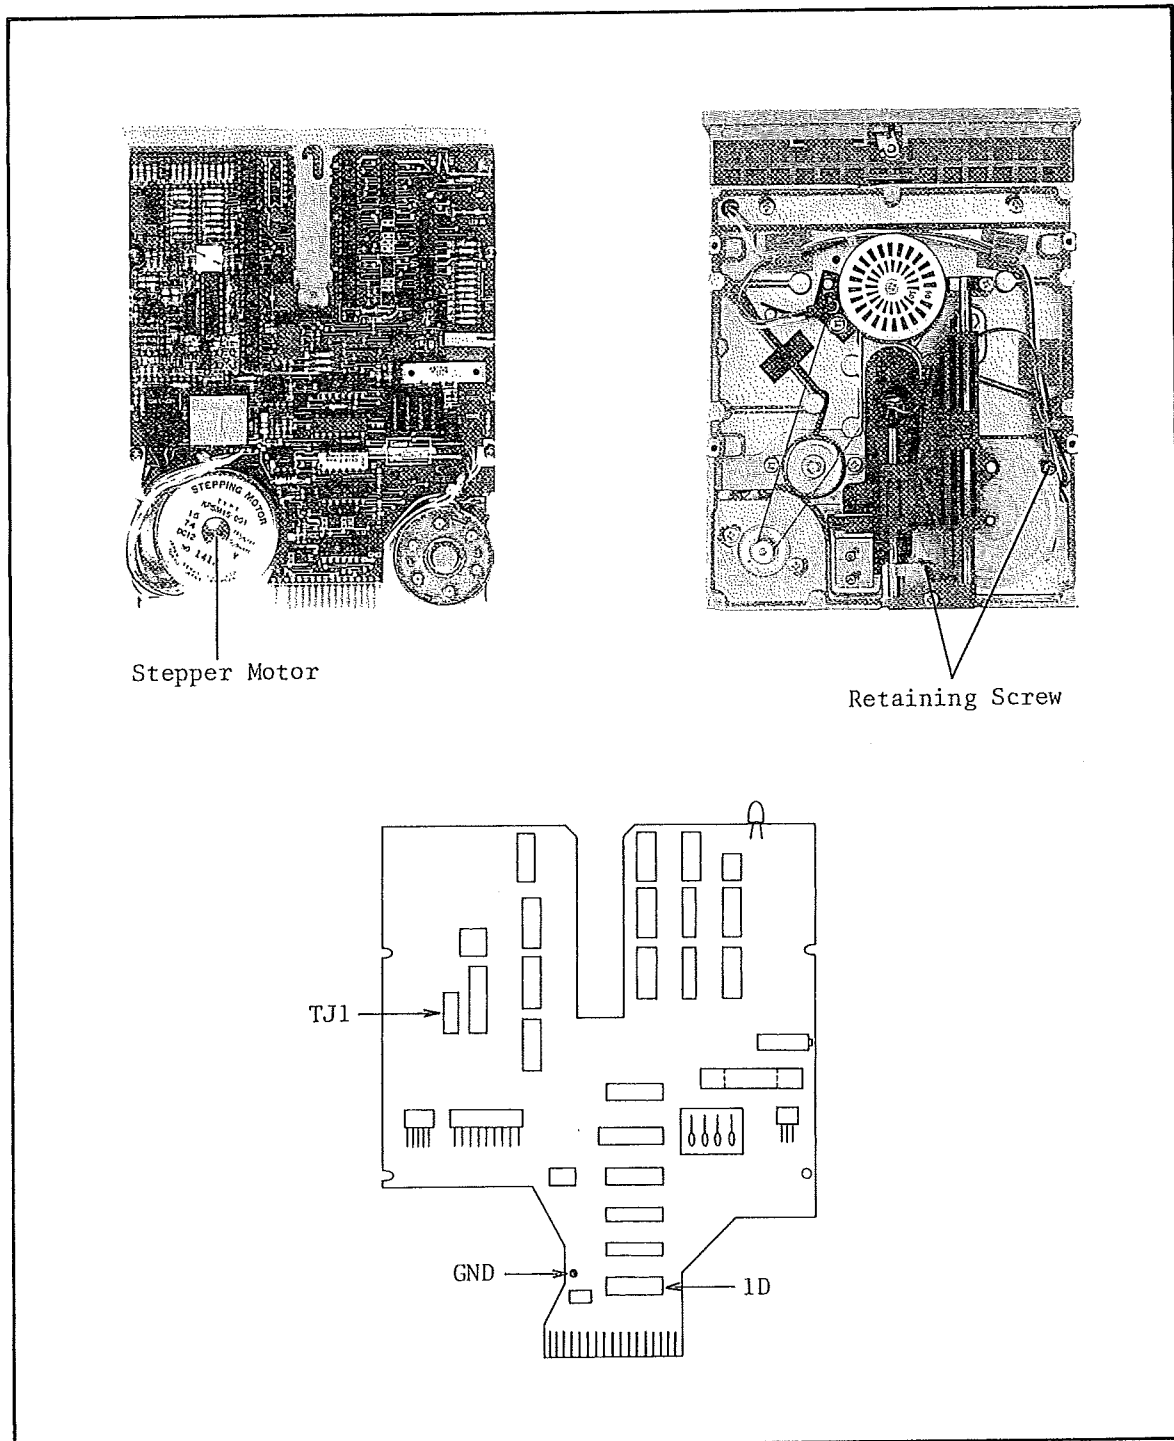

Figure 5-31. Check/Adjustment Point Locations.
1. Connect channel A input to TJ1 pin 9 and channel B input to TJ1 pin 7 (see Figure 5-31 for the locations) on the flexible-disc drive (FDD) PC board using 10 : 1 divider probes.
2. Obtain the external trigger from 1D pin 3 (see Figure 5-31 for location) using a 1 : 1 probe.
11. Loosen the two retaining screws of the stepper motor (see Figure 5-31 for the location) and rotate it gradually until the orientation bursts reach their maximum amplitude. Then perform step 9.